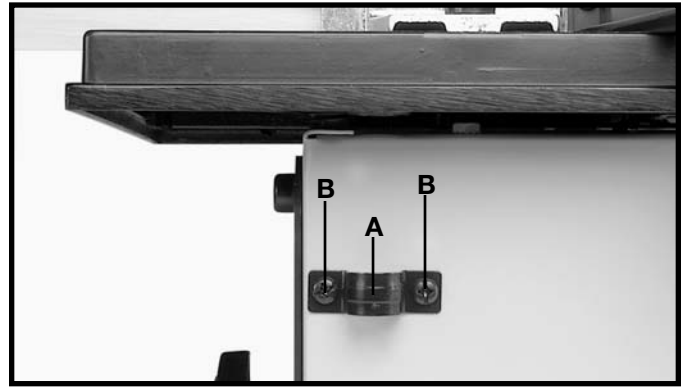

Fig. 6
Assemble the overhead cutter guard holding bracket (A) Fig. 6, to the rear of the Router/Shaper and fasten with the two M6x10mm sheet metal screws (B).